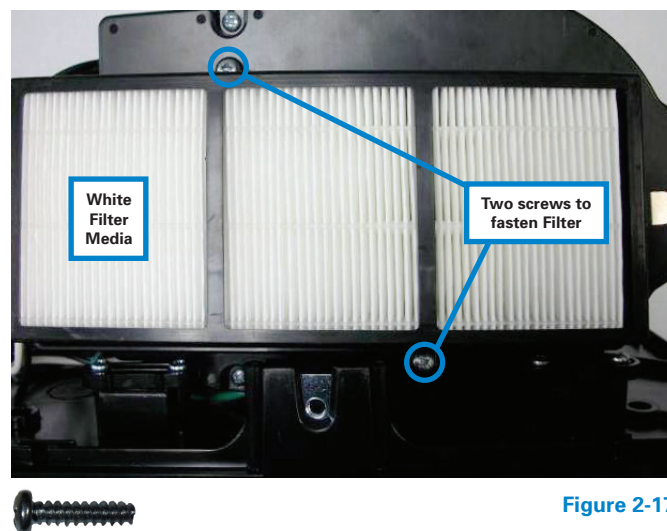
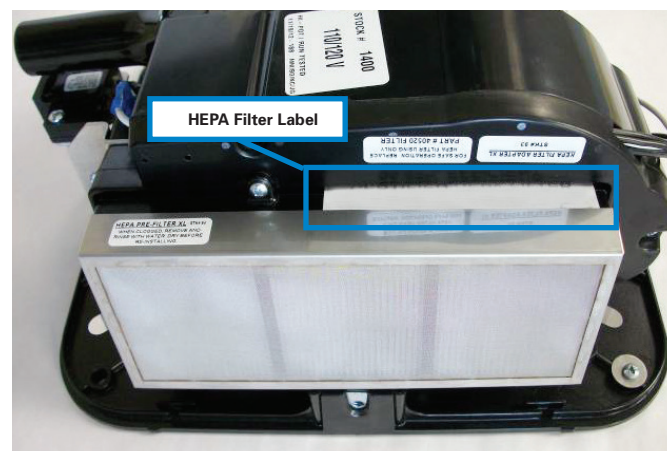

Figure 2-17
Figure 2-18
Step 2-13. Take the HEPA Filter (B) out of the clear sealed plastic wrap and insert the Filter into the HEPA Filter Adapter (A). **DO NOT touch the white filter media, as this can result in reduced performance and efficiency.** The side with the foam gasket around the perimeter of the filter should be placed into the HEPA Filter Adapter first. Position the filter so that the label is facing away from the wall as shown in **Figure 2-18**. Fasten the filter to the HEPA Filter Adapter with the **two (2)** screws previously removed in Step 2-2 (**Figure 2-17**).
Step 2-14. Orient the HEPA Pre-Filter (G) so that the label is facing the same direction as the HEPA Filter Label, then push on the corners of the metal frame so that it fully clips into place. The clips will fall into square cutouts in the metal frame of the HEPA Pre-Filter (**Figure 2-18**). Replace dryer cover, carefully avoiding pinching any wires, then restore power to check for proper function.